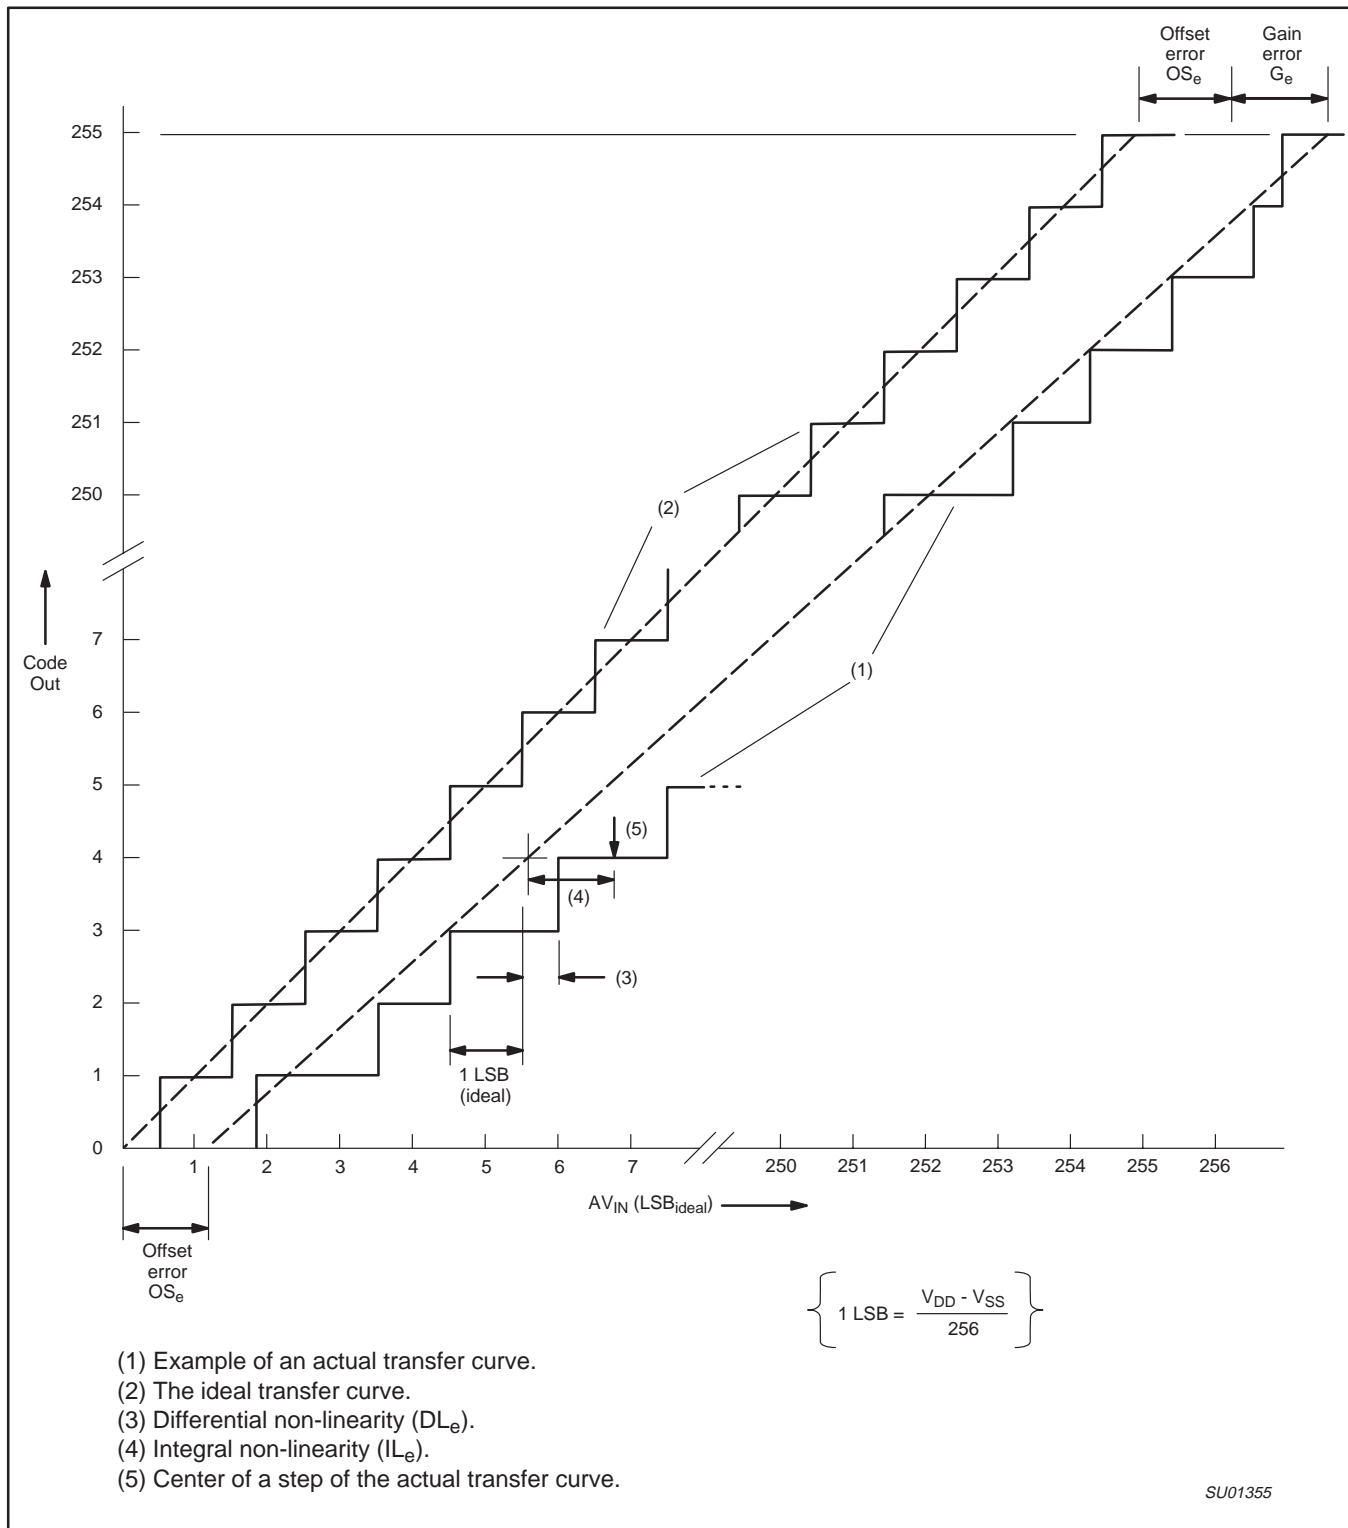

Figure 40. A/D Conversion Characteristics
- The differential non-linearity (DL_e) is the difference between the actual step width and the ideal step width. See Figure 40.
- The integral non-linearity (IL_e) is the peak difference between the center of the steps of the actual and the ideal transfer curve after appropriate adjustment of gain and offset errors. See Figure 40.
- The offset error (OS_e) is the absolute difference between the straight line which fits the actual transfer curve (after removing gain error), and the straight line which fits the ideal transfer curve. See Figure 40.
- The gain error (G_e) is the relative difference in percent between the straight line fitting the actual transfer curve (after removing offset error), and the straight line which fits the ideal transfer curve. Gain error is constant at every point on the transfer curve. See Figure 40.